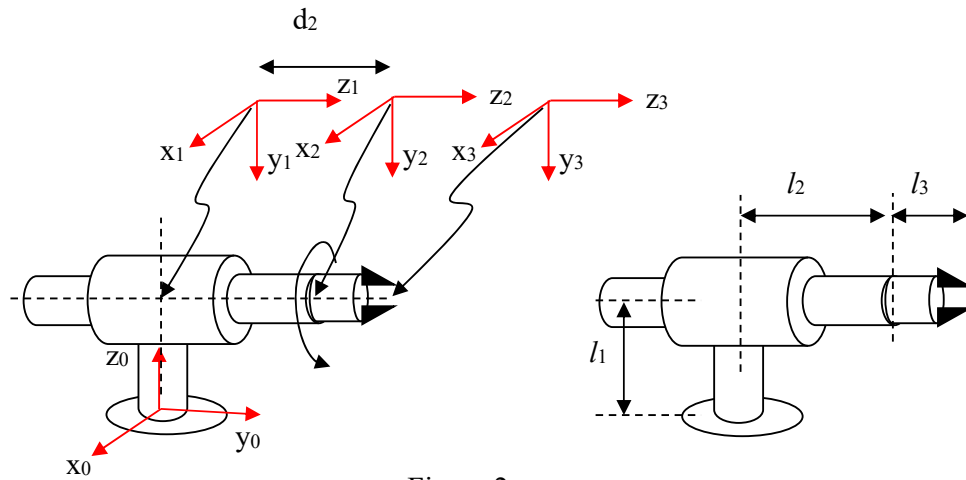

Figure 2
2. Figure 2 shows a 3-joint robot with one translational joint. It is a cylindrical robot whose first two joints are analogous to polar coordinates when viewed from above. The last joint provides “roll” for the hand.